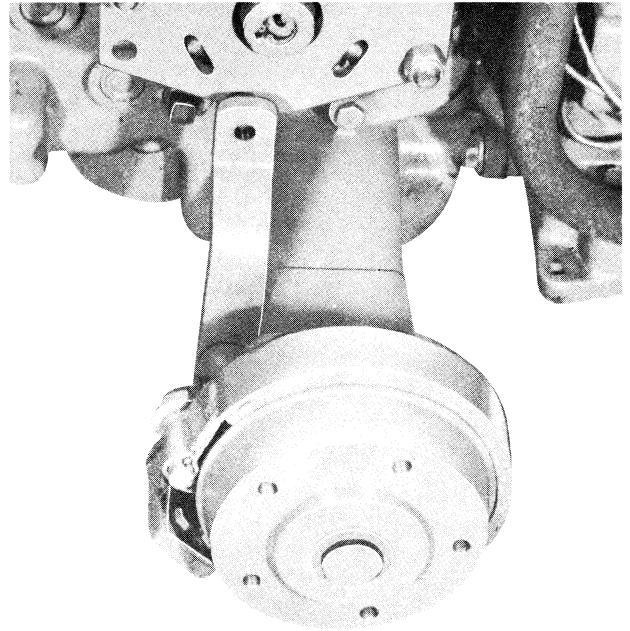

fig 3
10. Holding the brake bands tight on the drums, adjust the links as straight up as possible. Tighten the nut, fig 3.